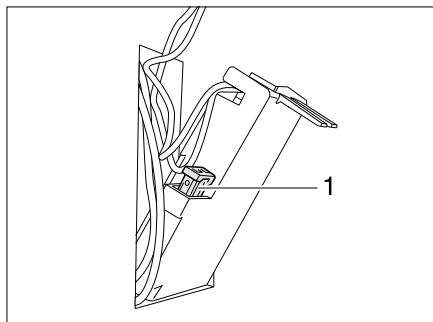

Fig. 303 Fuse for the Thetford toilet
- Replace the fuse (Fig. 303,1).